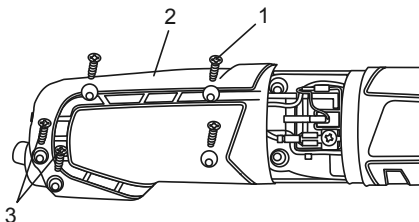

Figure 10
2. Lay the tool on its left side on a towel or on corrugated. (Figure 10)